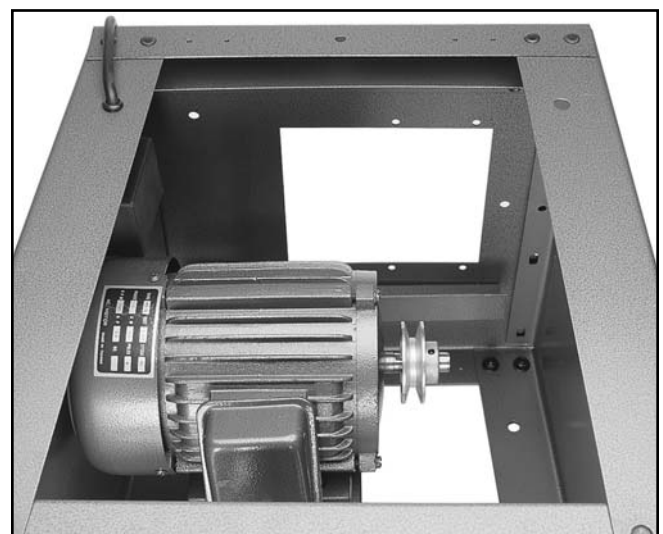

Figure 11. Place drive pulley.
9. Lay the stand on its side. Carefully set the motor on the motor bracket (see **Figure 11**) and line up the holes. Secure the motor using (4) $\frac{5}{16}$ "-18 x 1" hex bolts, (4) hex nuts and (8) flat washers, finger tight only. Slide the motor to the top of the stand as far as it will go. Tighten the top two motor bolts down leaving the bottom two finger tight. Set the stand upright at this time.